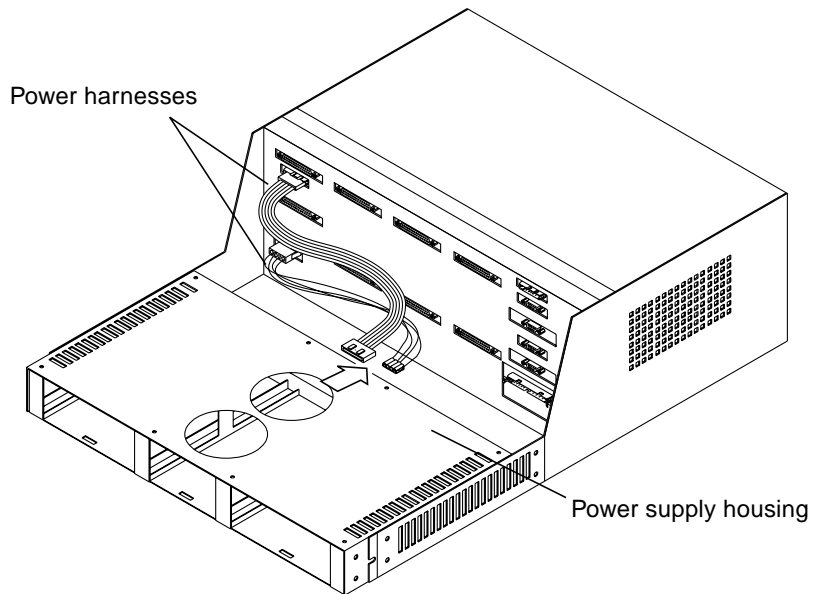

FIGURE 7-5 The Power Harnesses on the Power Supply Housing
- 3. Reach down between the power supply housing and rear shield to disconnect the other end of the power harnesses (FIGURE 7-5).**
b. Disconnect the DC power harnesses from the back of the power supply housing (FIGURE 7-5).